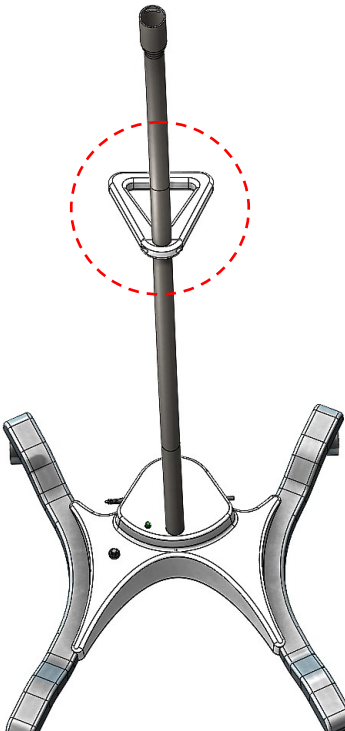

Figure: 16A
4. Properly installed handle, refer to Figure 16A & B.